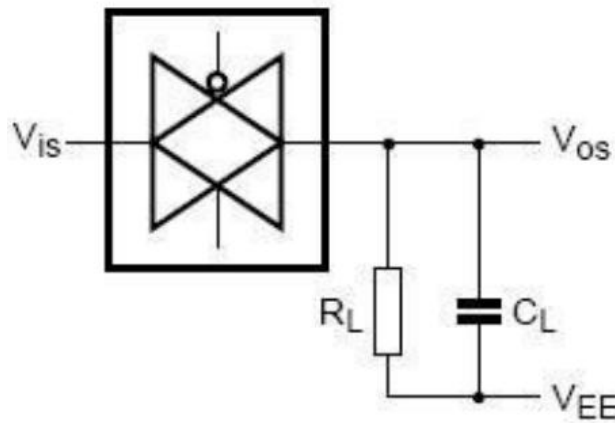

Figure 6. Square wave distortion degree of cut-off frequency and conduction frequency test pattern
| Square wave distortion | d_{sin} | see Figure 6; $R_L=10k\Omega$; $C_L=15pF$; channel ON; $f_i=1kHz$ | $V_{DD}=5V$ | 0.25 | - | - | % |
- (3) $R_L=1k\Omega$; $C_L=5pF$, channel off, $20\log V_{os}/V_{is}=-50dB$, see Figure 6.
- (4) $R_L=1k\Omega$; $C_L=5pF$, channel on, $20\log V_{os}/V_{is}=-3dB$, see Figure 6.